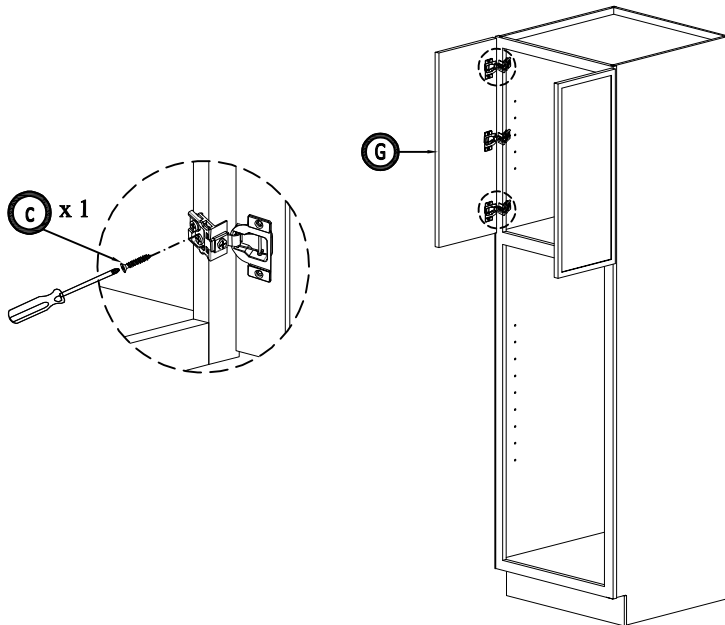

Figure 9
10. Assemble below door with hinges to left or right of cabinet frame by 4 screw 4/5" (Figure 9)
11. installing the shelf inside of cabinet: Insert plastic shelf support into the free hole inside of side panel and put the shelf on the support. This step should be after install cabinet to the wall .(Figure 9)